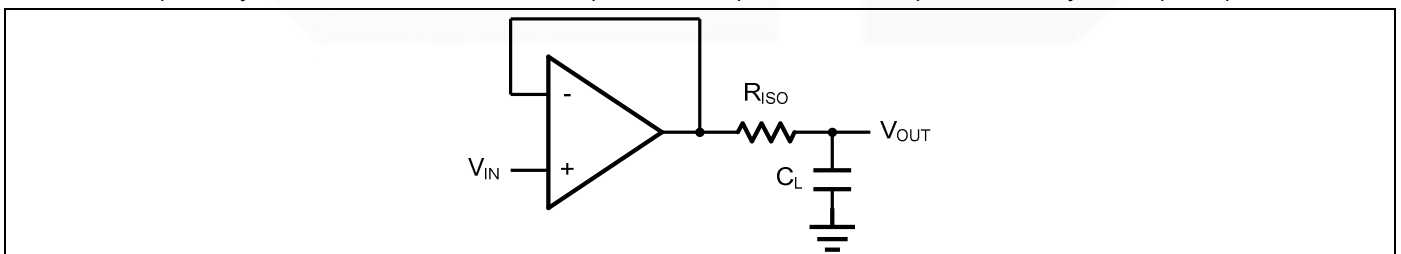
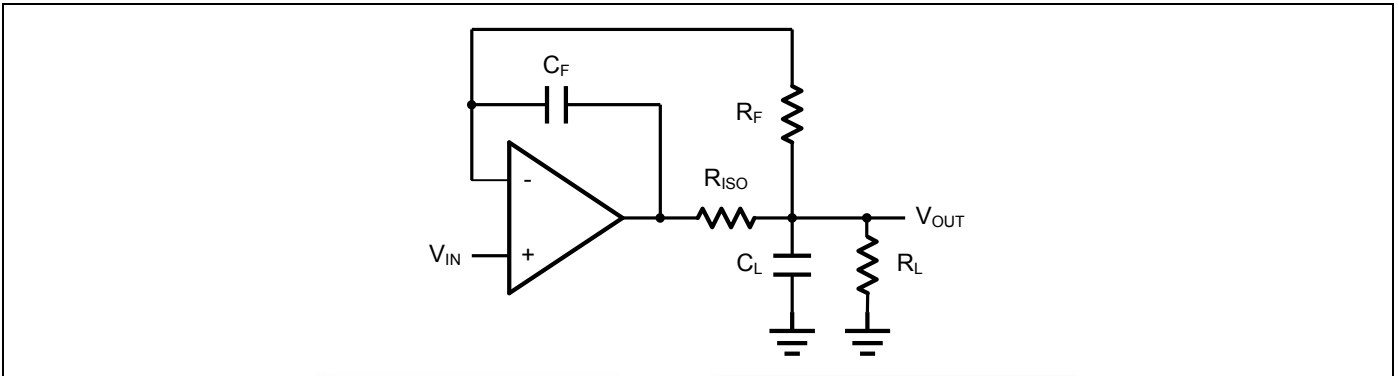

Figure 2. Indirectly Driving a Capacitive Load Using Isolation Resistor
Figure 3. Indirectly Driving a Capacitive Load with DC Accuracy
The GS8634C is optimized for bandwidth and speed, not for driving capacitive loads. Output capacitance will create a pole in the amplifier's feedback path, leading to excessive peaking and potential oscillation. If dealing with load capacitance is a requirement of the application, the two strategies to consider are (1) using a small resistor in series with the amplifier's output and the load capacitance and (2) reducing the bandwidth of the amplifier's feedback loop by increasing the overall noise gain. Figure 2. shows a unity gain follower using the series resistor strategy. The resistor isolates the output from the capacitance and, more importantly, creates a zero in the feedback path that compensates for the pole created by the output capacitance.
The circuit in Figure 3 is an improvement to the one in Figure 2. R_F provides the DC accuracy by feed-forward the V_{IN} to R_L . C_F and R_{ISO} serve to counteract the loss of phase margin by feeding the high frequency component of the output signal back to the